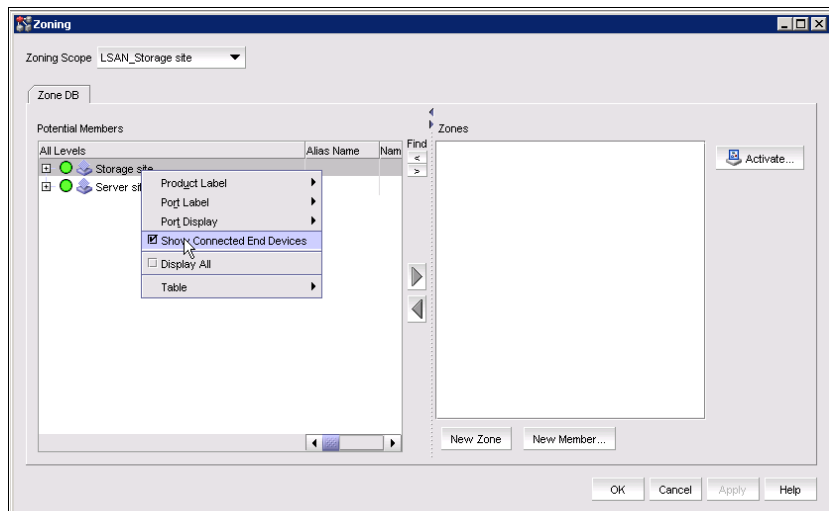

Figure 10-37 Making DCFM show WWNs
3. As shown in Figure 10-37, right-click the fabric and select **Show Connected End Devices** to expand the fabrics and make DCFM show WWNs.